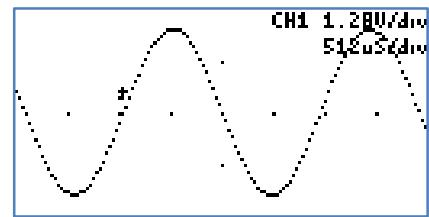

Figure 46: Pixel Display
- Pixel:** A single pixel represents a sample. The pixel display is useful at slow sampling rates or when used in combination with the persistent mode. Figure 46 shows the pixel display.